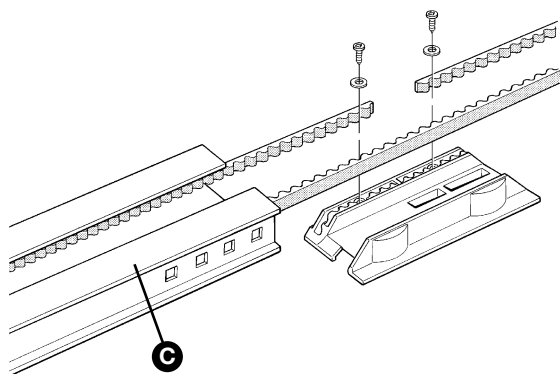

Figure 17
**5** Place both ends of the belt in all of the shaped slots of the lower carriage [C], and fix the two ends with the two V4.2x9.5 screws and two R05 washers, as in fig. 17.